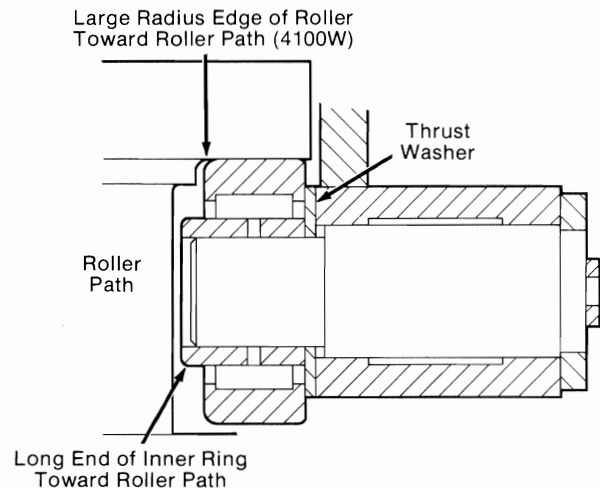

Figure 3 Hook Roller Without Snap Ring (SC135, 3900W, 3900T, 4000W, SC200, 4100W)
5. Models SC135, 3900W, 3900T, 4000W, SC200, 4100W — **Bearing-type hook rollers without a snap ring** (see Figure 3) must have the long end of the inner rings toward the roller path and, on the 4100W, the large radius edge of the rollers toward the roller path.